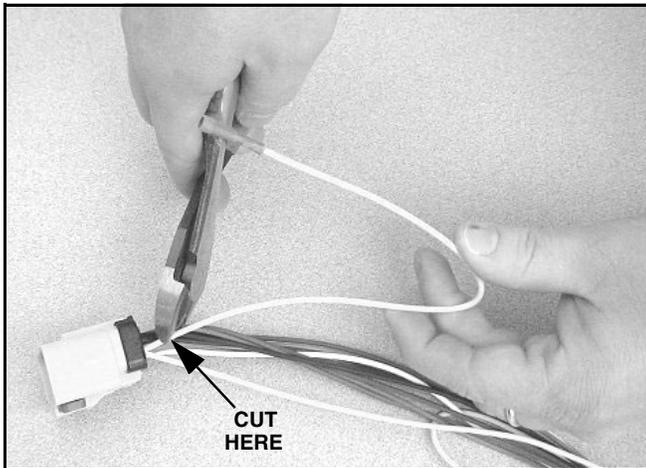

Figure 4
3. Remove the loose yellow wire from adapter by cutting wire just behind the female green plug (See Figure 4.).